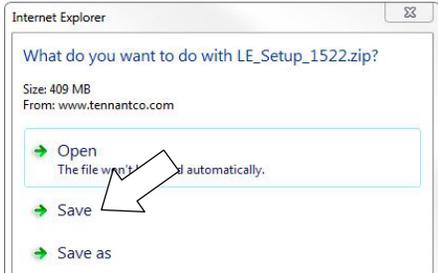

Fig. 39
3. Within the Service Application Software page, click on the link titled “Service Diagnostics LE version x.x.xx” to download the application installer then click the Save button (Figure 39).